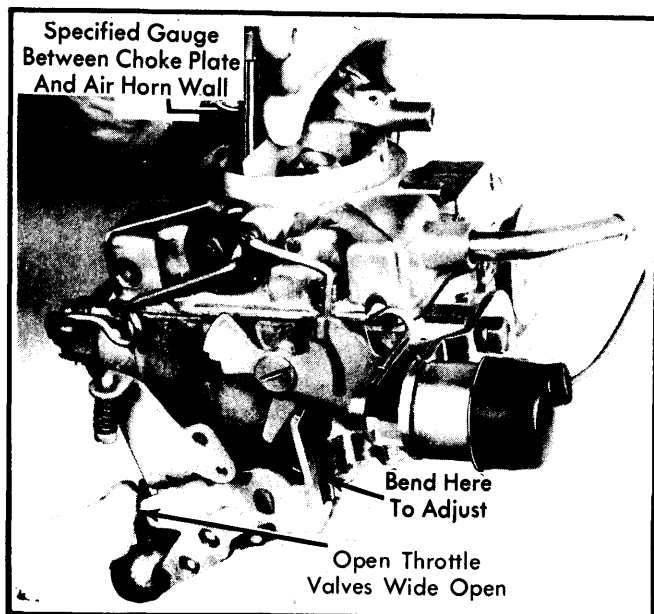

Fig. 4 Adjusting Choke Unloader
- 1) Open throttle valves wide open. Apply a light closing pressure to choke valve. Measure choke unloader specified clearance between upper edge of choke valve and air horn wall. See Fig. 4.